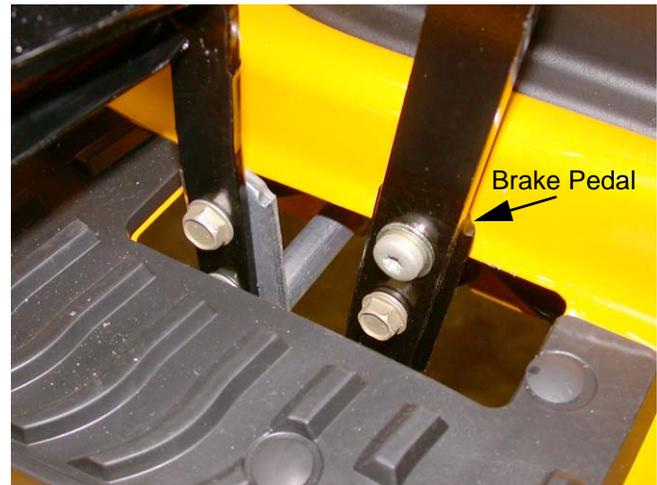

Figure 20.1
20.1. Confirm that the brake pedal is firmly attached to the pedal shaft. See Figure 20.1.